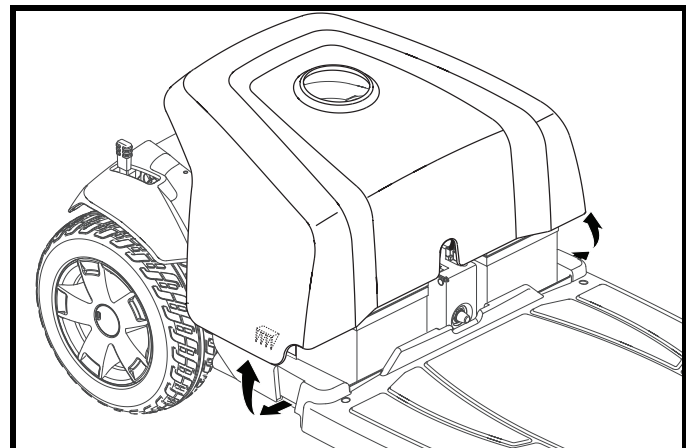

Figure 22. Battery Shroud Removal
2. Gently pull the battery shroud up and off of the scooter. **See figure 22.**